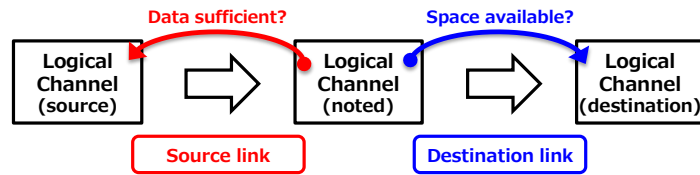

Figure 8 Source and Destination Link
- The check is similar to FIFO pointer management. When the data processed by a Pipeline is divided into input (Source) and output (Destination), the relationship appears as shown in Figure 8. In this case, Logical Channel A drives Pipeline X and generates data used by Logical Channel B. Logical Channel B, in turn, drives Pipeline Y and uses the data produced by Logical Channel A.